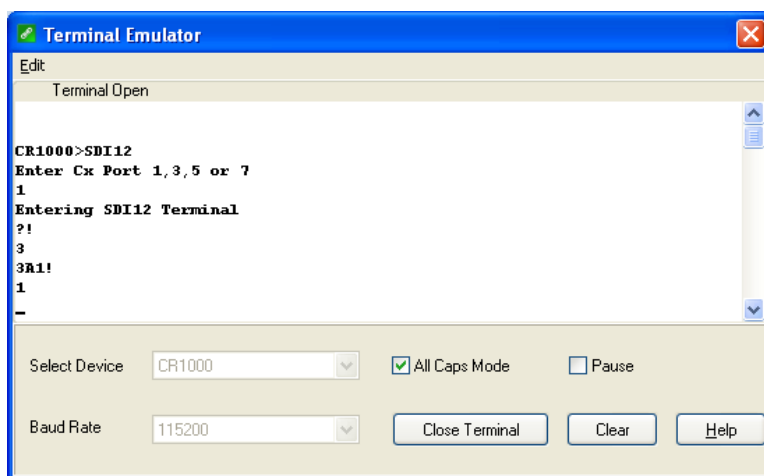

FIGURE D-2. CR1000 example of using the SDI-12 transparent mode to change the SDI-12 address from 3 to 1. Sensor is connected to control port 1.
6. To change the SDI-12 address, key in *aAb!* <enter>, where *a* is the current address from the above step and *b* is the new address (see FIGURE D-2). The OBS501 will change its address and the datalogger will respond with the new address. To exit SDI-12 transparent mode, select the **Close Terminal** button.